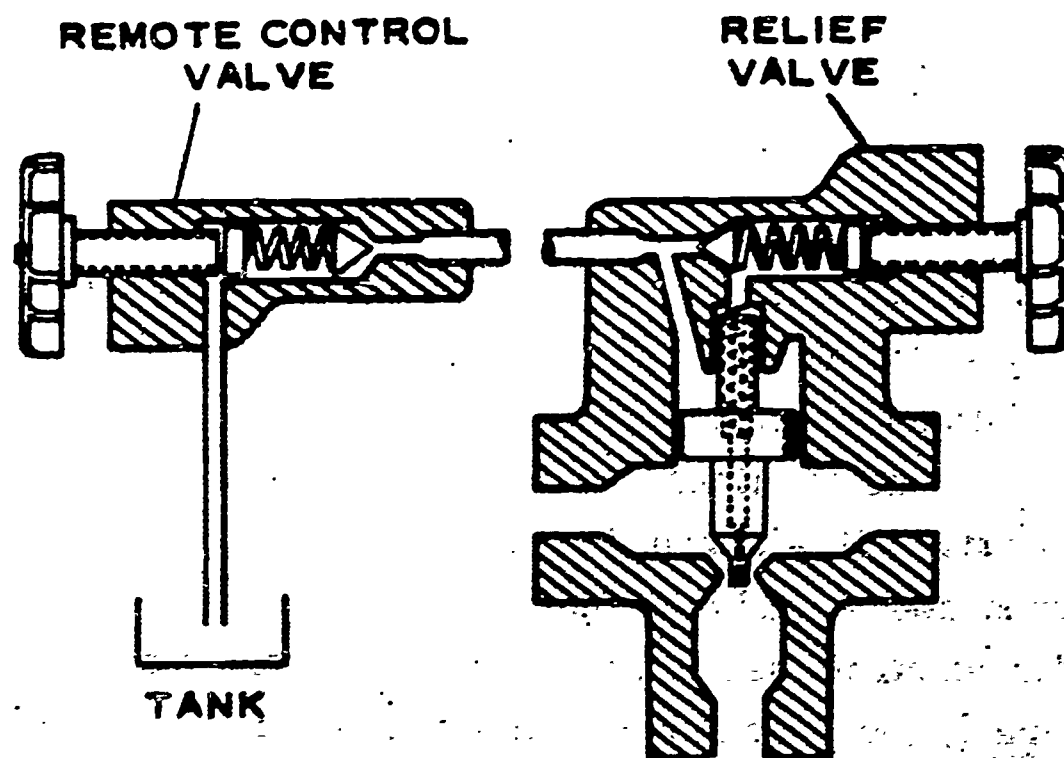

Fig. 7 Remote control valve used to control operation of relief valve
These valves may be made to operate in the conventional manner by providing a plug at port (7). Or, by connecting a line to this port and leading it to an additional control valve, the relief valve may be controlled remotely. This additional valve may be a simple shut off valve which, when opened, will allow oil in chamber (2) to drain to tank, thus unbalancing pressures above and below the main piston, and causing the main piston to be forced off its seat. Or, it may be a remote control valve as shown in Figure 7, the operation of which is similar to that for the pilot valve arrangement contained in the cover of the relief valve. Regardless of what type of external valve is used, the required operation involves development of unbalanced chamber pressures, which will result in the opening of the main piston and the release of excessive fluid through the return port.